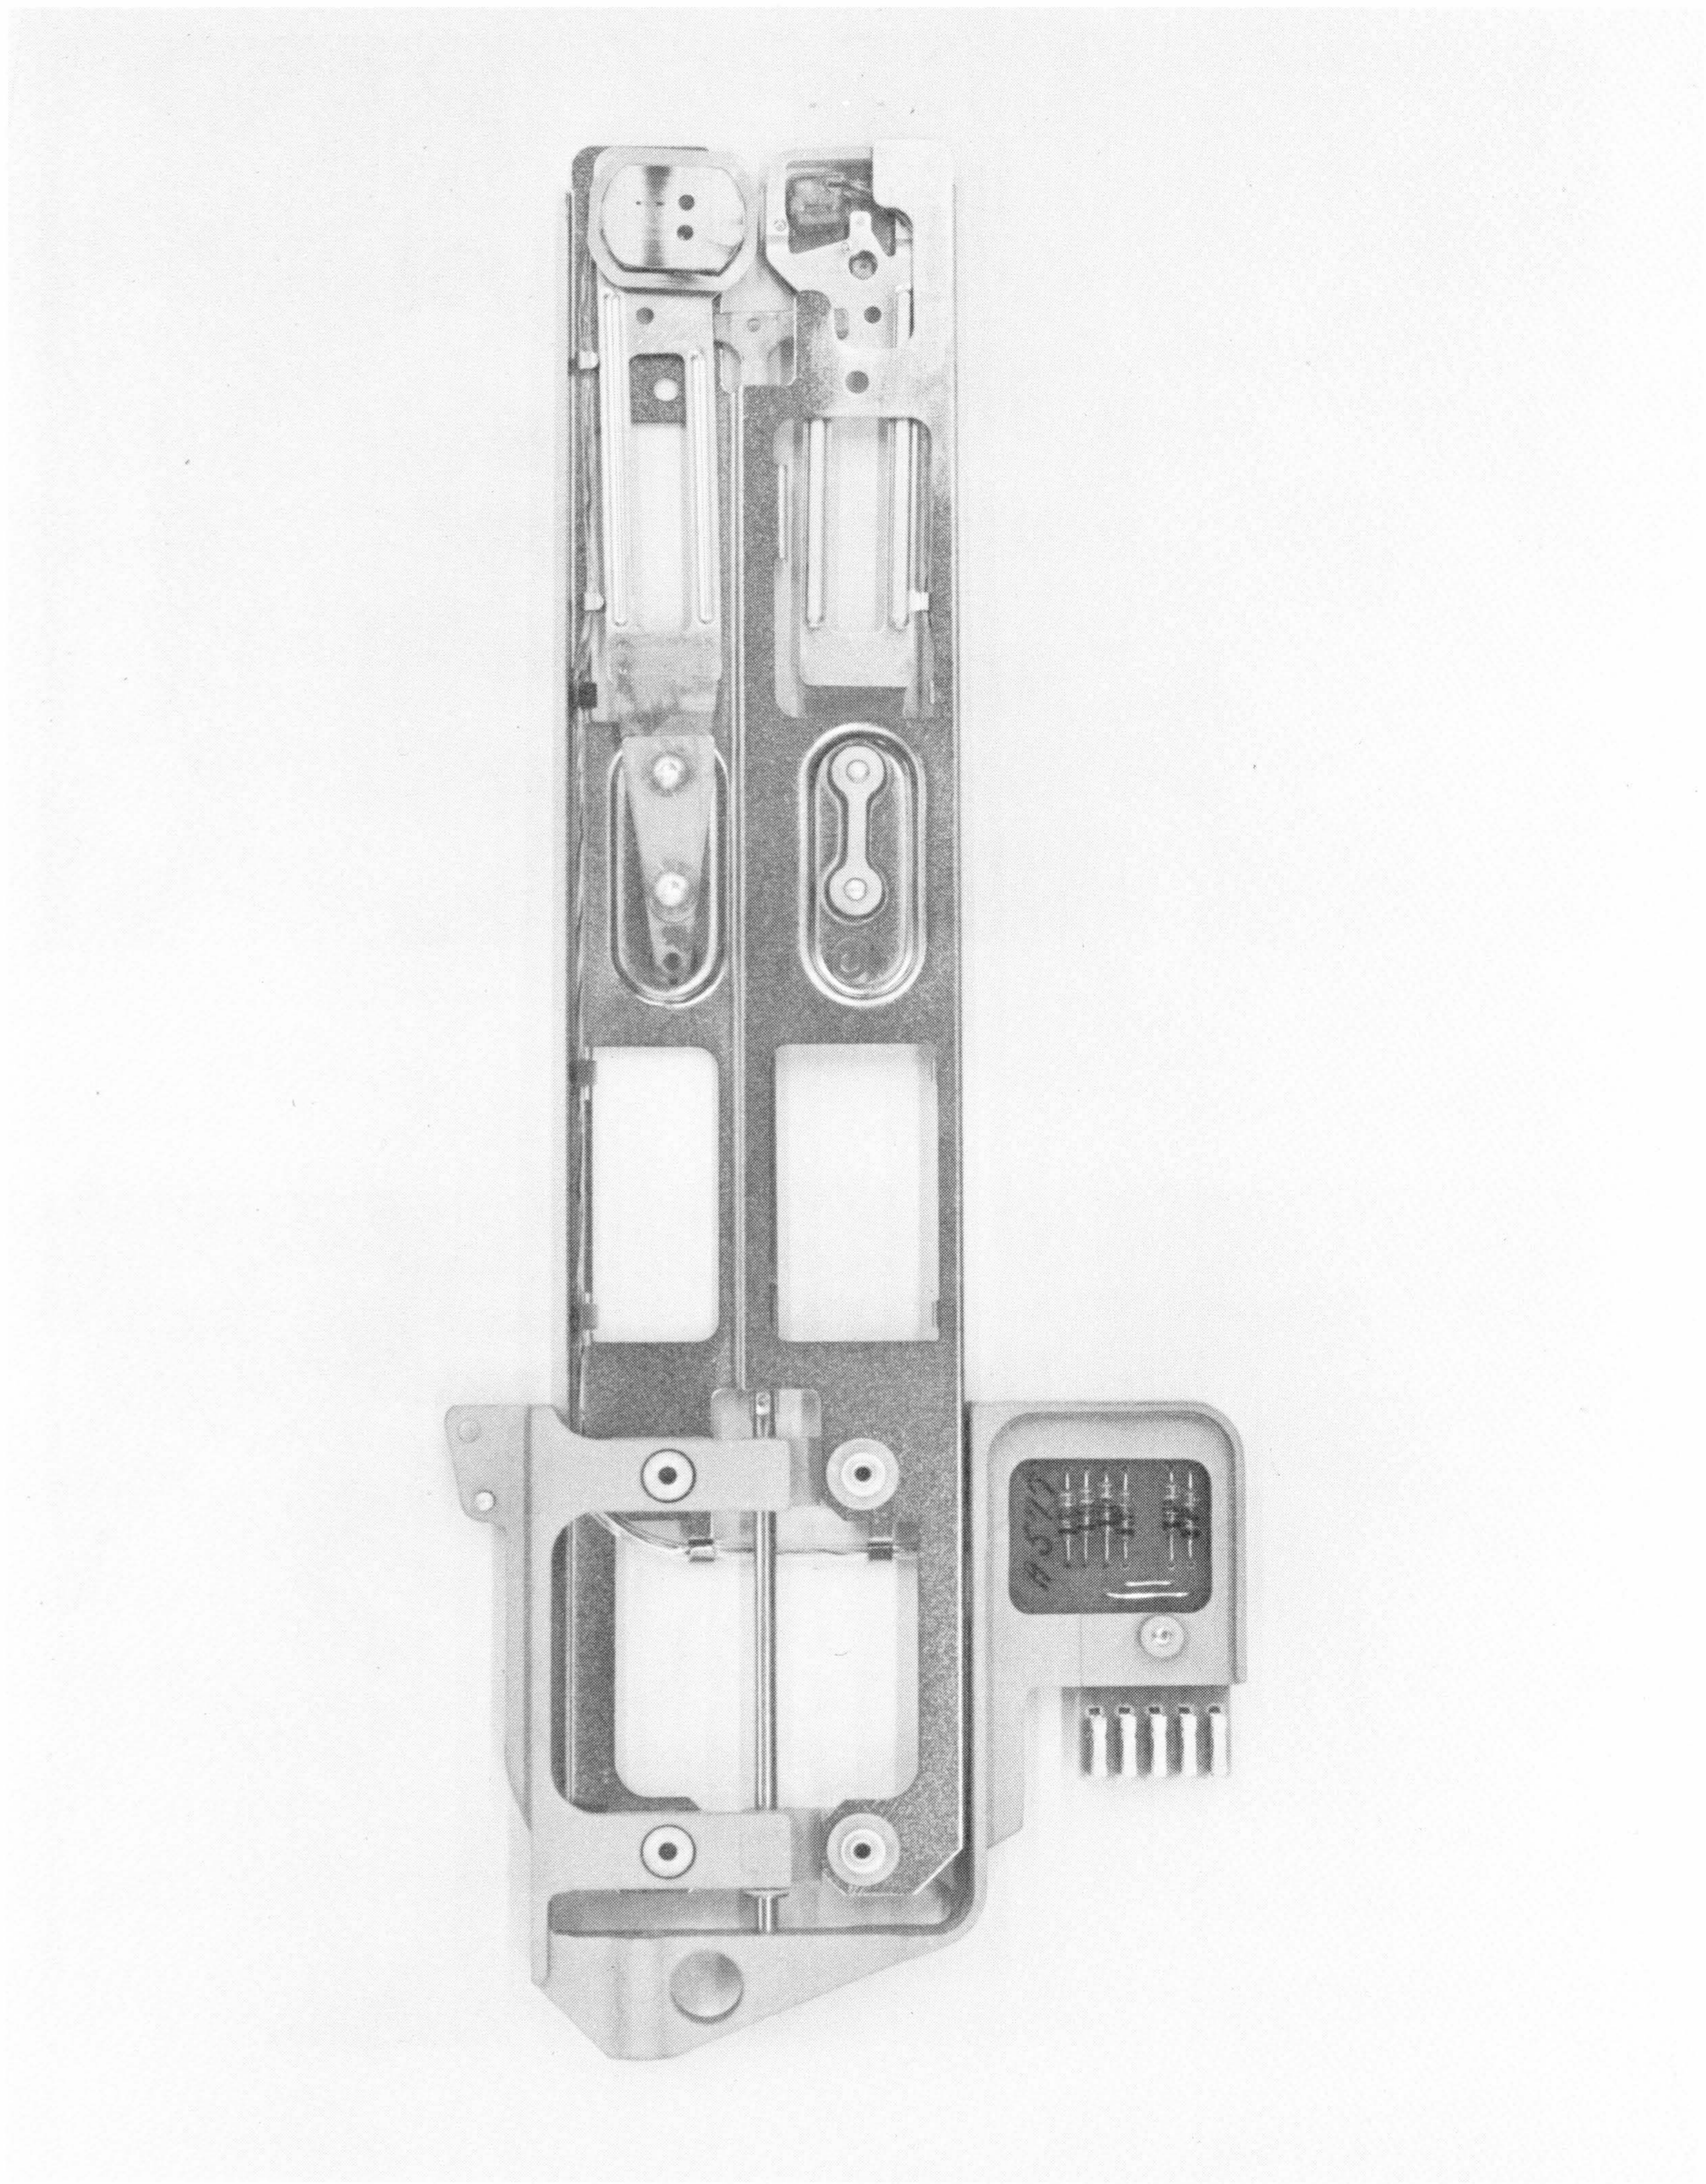

Figure 3-25 Drawer Assembly
2. Check for proper position of torsion rod (Figure 3-25).